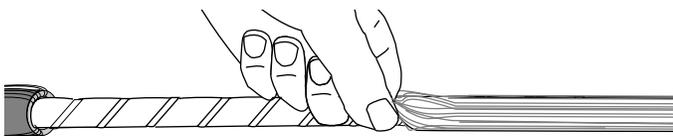

Figure 12
5.11 Starting at the cut point, slide the yarn off the end of the cable (Figure 12). The yarn will bunch up, but will slide to the end of the cable.